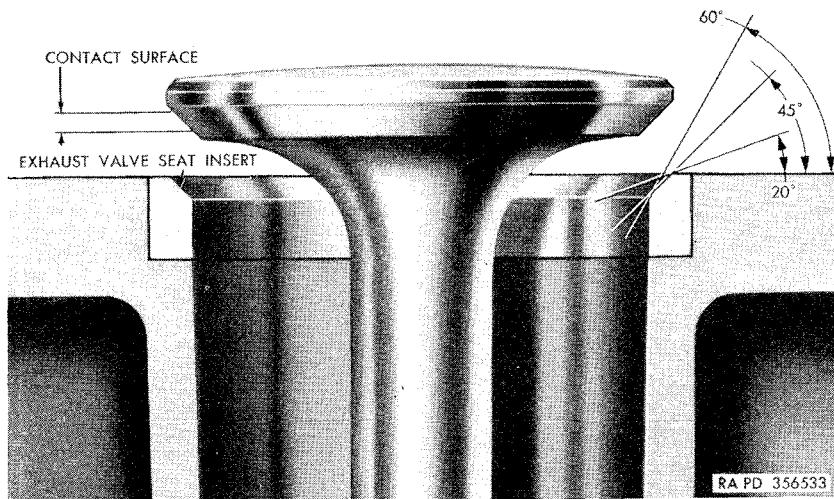

Figure 46. Exhaust valve seat insert.
- (7) *Exhaust valve seat inserts* (fig. 46). Because of the hardness of the special inserts used in the exhaust valve seats, it is impossible to recut them. They must be reground with a high speed valve grinder. Use a 45° angle high speed stone for grinding. The desired seat width is one-sixteenth of an inch. If greater than three-thirty-seconds of an inch, reduce with a 20° stone at the top or a 60° stone at the bottom, as seating surface must be in center of valve face. Always inspect the inserts for cracks, damage, or looseness in the cylinder block. If damaged or loose, the insert should be